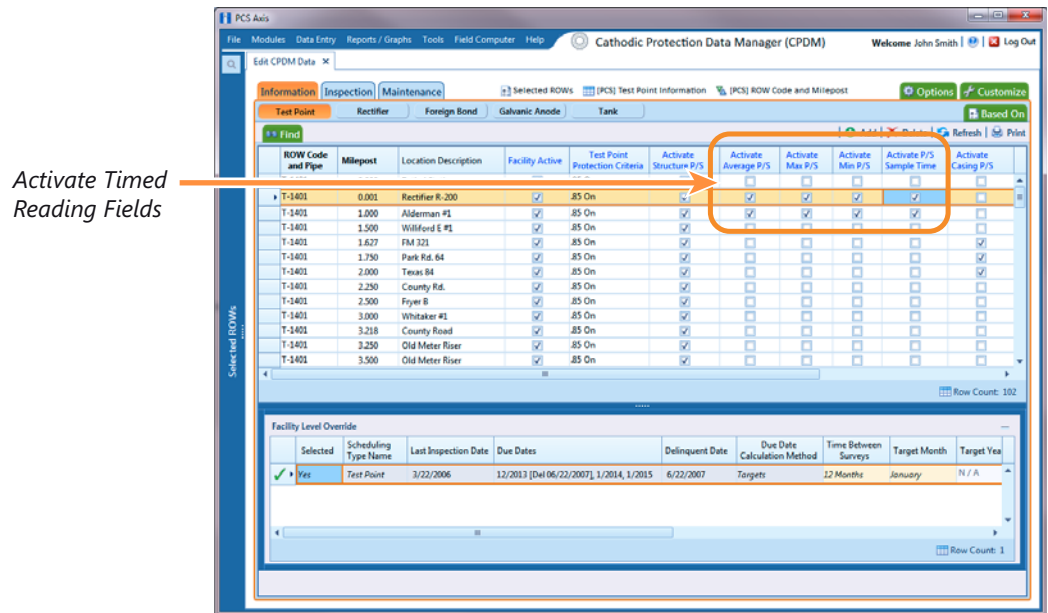

Figure 8-15. Test Point Information Data Entry Grid
- 11 In each column labeled with an “activate” timed reading field, click the check box associated with the facility you plan to record Allegro timed readings (Figure 8-15).